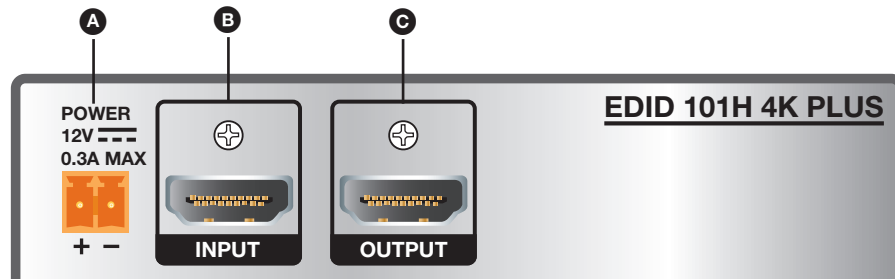

Figure 2. EDID 101H 4K PLUS Rear Panel
3. Connect an HDMI cable from the source to the input connector (see figure 2, **B** on page 5).
2. Connect the display device to the output connector of the EDID 101H 4K PLUS (see figure 2, C on page 5).
3. Connect a power source and apply power to the EDID 101H 4K PLUS (see figure 2). The power LED lights steady when power is available.